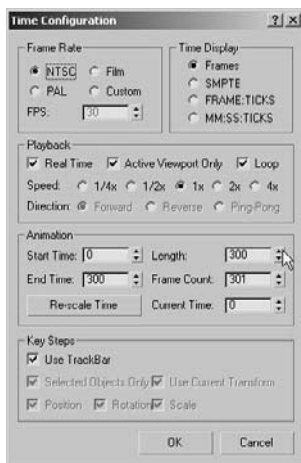

Figure 12.16
2. In the Time Configuration dialog box, change the Length value to 300, as shown in Figure 12.16, and then click the OK icon. At 30 frames per second (fps), the scene is now 10 seconds long.